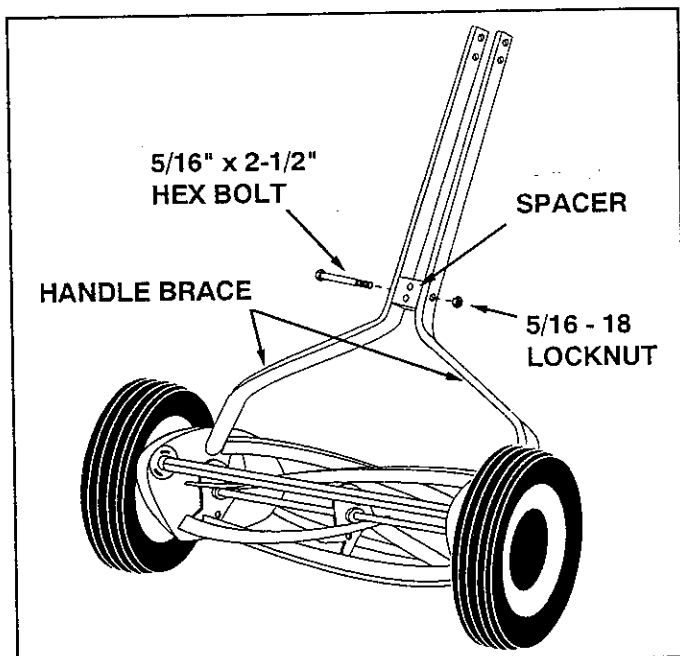

FIGURE 3
3. Place the spacer between the two braces. Place the bolt 5/16-18 x 2-1/2" long through both braces and the spacer. Hand tighten the nut. See figure 3.
6. Tighten all four bolts and nuts. See figure 3 and 4.